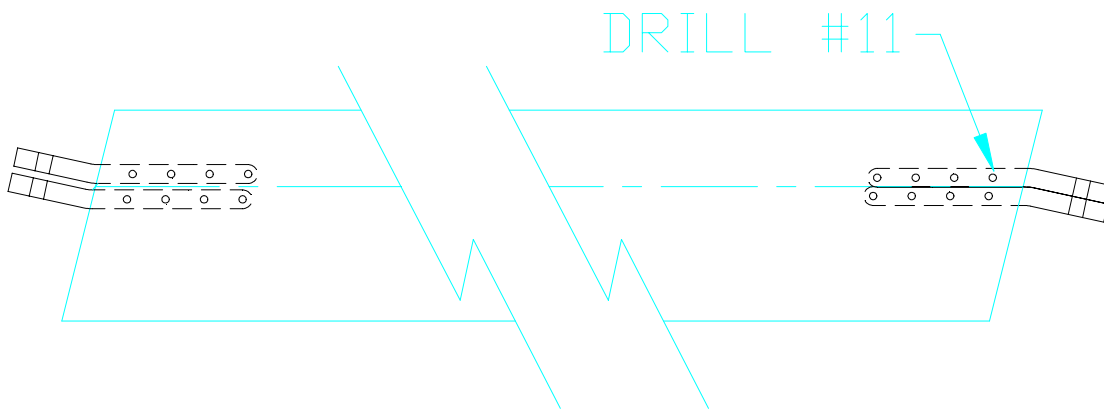

Figure 13.2.2
5) Clamp the plywood to the top surface of the W-617 Strut Fitting, back drill through the fitting (using the existing holes on the fitting) into the plywood. Use a #11 drill. **NOTE:** The “center line” marked on the plywood should be centered between the W-618 fittings. Figure 13.2.2.